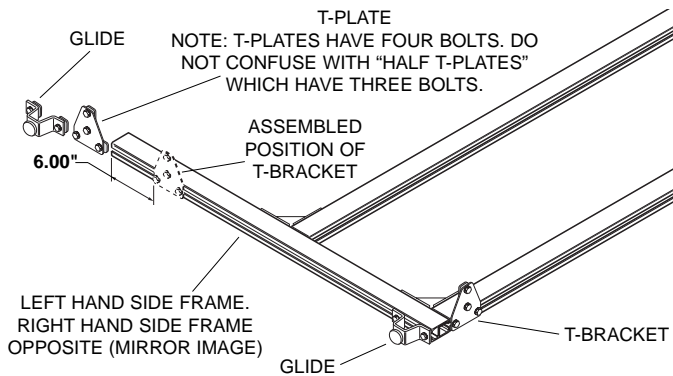

Figure 3.
2. Assemble four upright assemblies to 36" base rails as shown in Fig. 3. As in Step 1, make sure there is a right hand and a left hand (mirror image) assembly. Wrench tighten to secure.
3. Lay left hand side frame on floor with webs in angle brackets down. Slide one T-plate onto 60" rail so that edge of plate is flush with side of 36" base rail. Install second T-plate and two glide assemblies on base rail as shown in Figure 3. Repeat for right hand side frame. Make sure two finished assemblies are mirror images. Securely tighten clamp bolts.